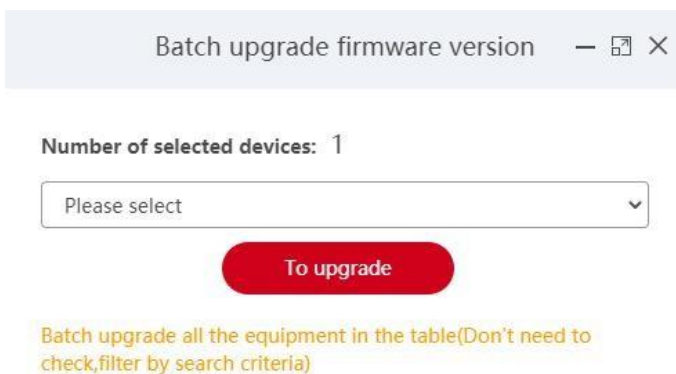

Figure 5-29
Step 7: Select the upgrade firmware version on the platform, click "To upgrade", wait for the device side to upgrade, the device will automatically restart after the upgrade is completed, and the upgrade is successful after the restart, as shown in Figure 5-29 below.